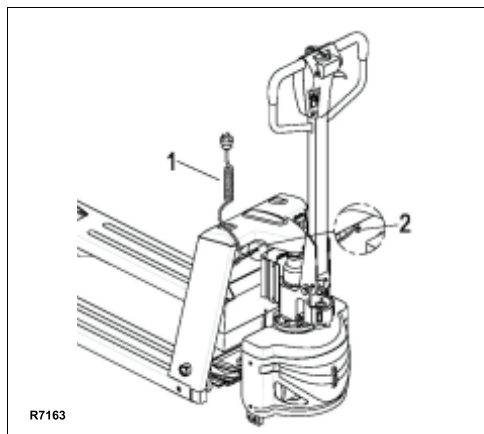

Figure 3-1 Battery Charging
3. Pull out charger cord (1, Figure 3-1) and connect to the appropriate power supply. The LED (2) will indicate the charge status as follows: